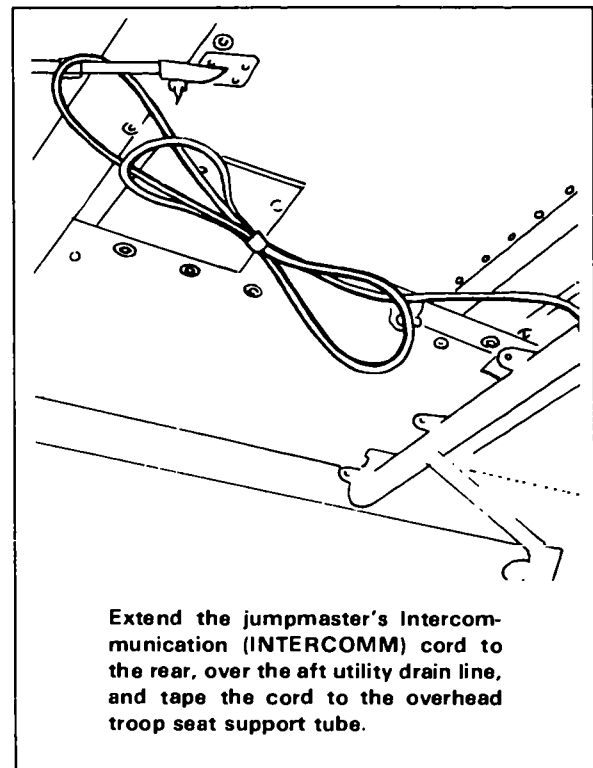

Figure 12-10. Jumpmaster's intercomm stowed overhead.
(3) Cargo doors are locked in the open position and cleared for closing, depending on mission requirements.
(4) The anchor line system is complete, serviceable, and properly installed.
(5) Three serviceable safety belts (modified) are installed on the cargo floor.
(6) A headset/helmet and intercommunications (intercomm) jack for the jumpmaster are available, operational, and the intercomm extension cord is secured overhead (Figure 12-10).
(7) Safety harnesses and backpack-type parachutes are available for the jumpmaster and the crew chief, as required.